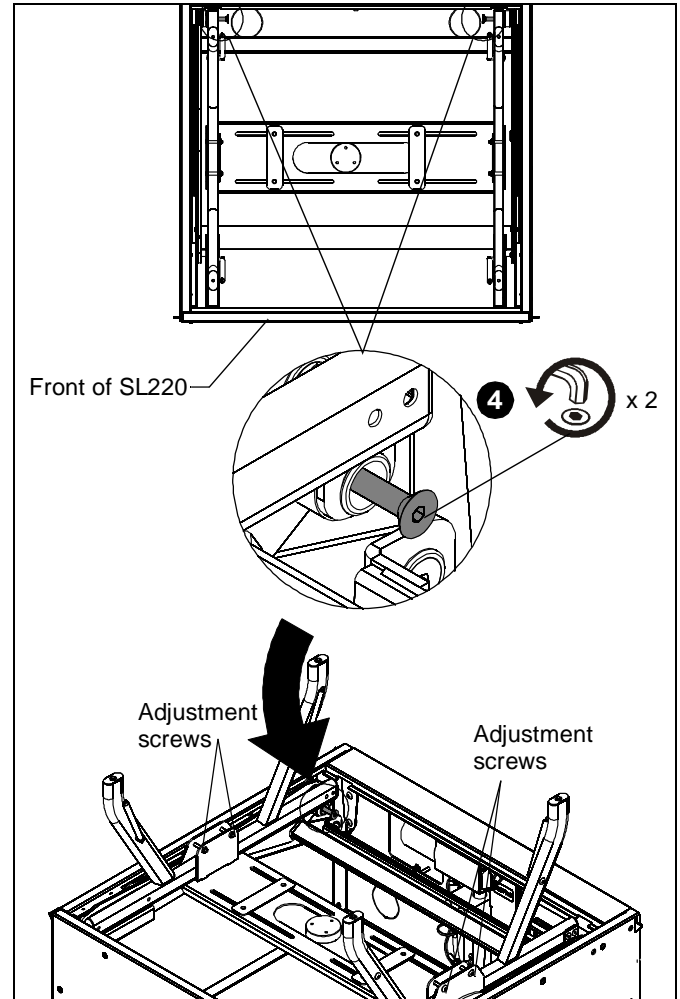

Figure 2
4. Loosen the screws in the linkage on each side of projector cradle at rear of SL220. (See Figure 2)
6. The forward/aft adjustment screws may need to be loosened for this. If so, loosen the screws, but do NOT remove the screws. (See Figure 2)